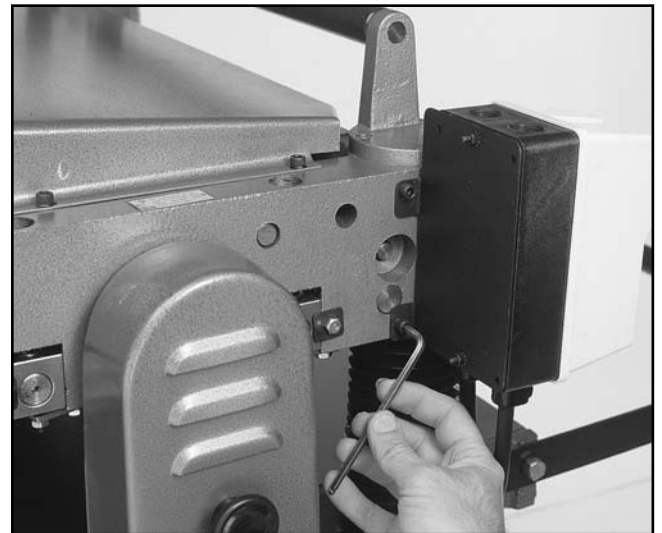

Figure 5. Attaching switch.
2. Using the socket head cap screws provided, attach the switch box assembly to the head casting. **See Figure 5.**